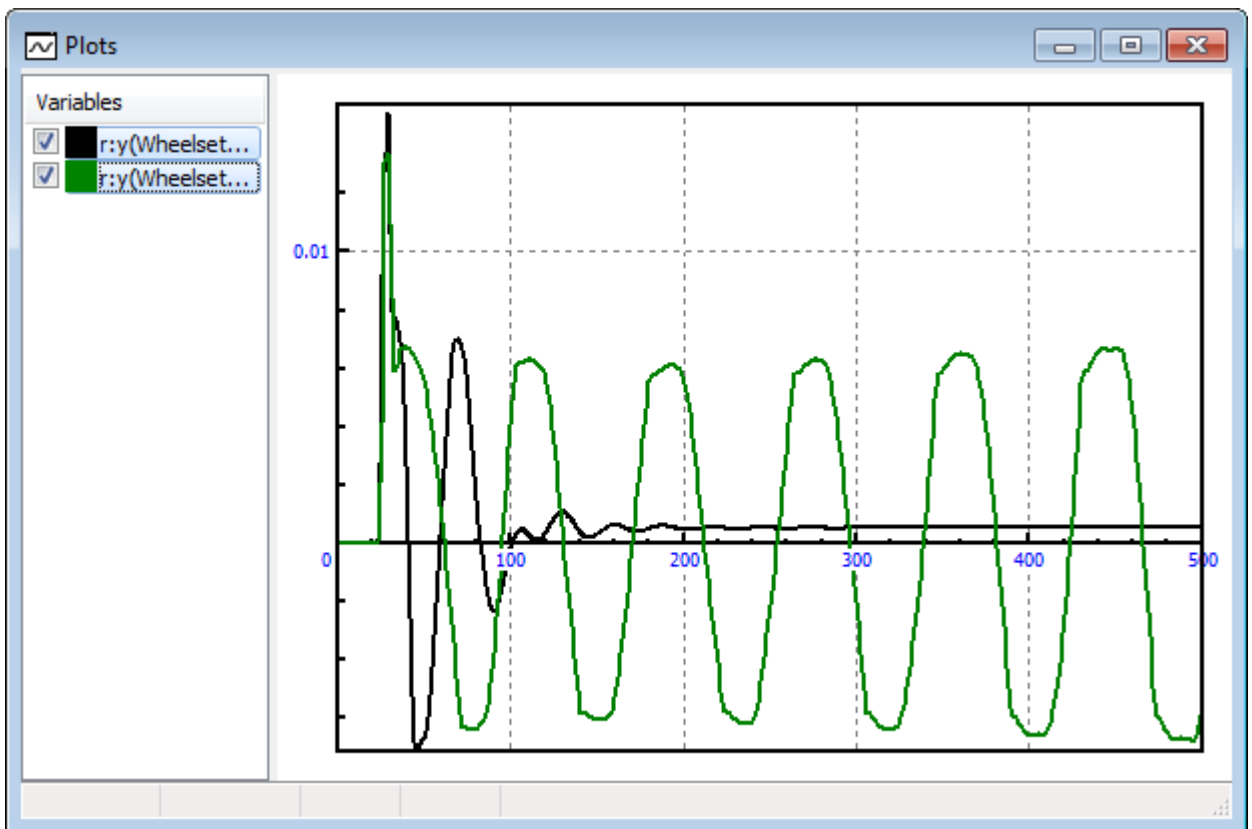

Figure 3.19. Lateral oscillations of the first wheelset in black – 30 m/s, in green – 90 m/s.
6. Select another experiment – “ $v_0 = 90$ ” and drag the same **r:y(Wheelset1.Wset)** variable to the graphical window, see Figure 3.19.
It is quite clear, Figure 3.19, those lateral oscillations that rose by singular lateral irregularity diminish in the long run at 30 m/s, but at 90 m/s reach maximum amplitude. In other words the railcar is stable at 30 m/s and instable at 90 m/s.